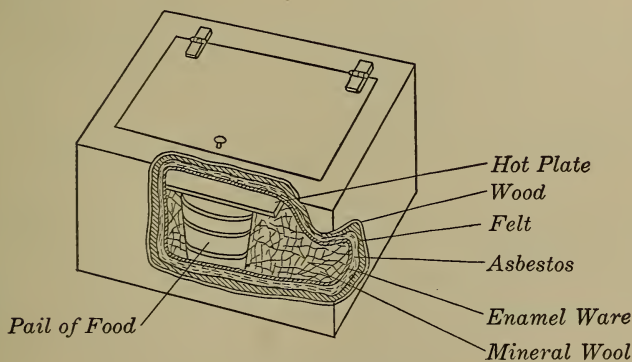

FIGURE 27. — THE FIRELESS COOKER.
**51. The Fireless Cooker.** — The fireless cooker is a box arrangement with non-conducting walls. Figure 27 shows how it is constructed.